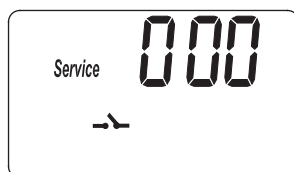
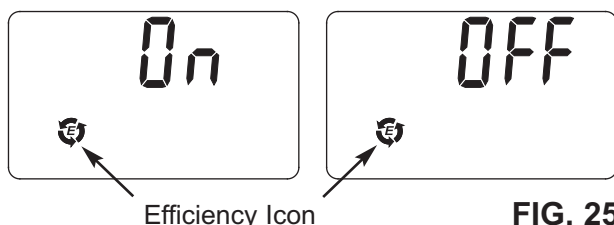
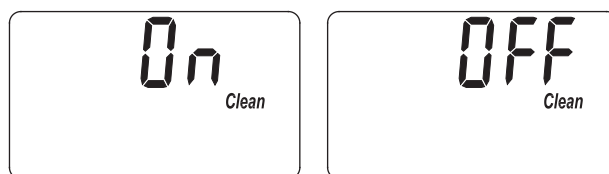

FIG. 24
FIG. 25
FIG. 26
1. Press and hold the PROGRAM button until the screen in Figure 24 is displayed. Once in this display, press the PROGRAM button once and one of the two displays in Figure 25 is shown.
1. Press and hold the PROGRAM button until the screen in Figure 24 is displayed. Once in this display, press the PROGRAM button twice and one of the two displays in Figure 26 is shown.
1. Press and hold the PROGRAM button until the screen in Figure 24 is displayed. Once in this display, press the PROGRAM button three times and the display in Figure 27 is shown.